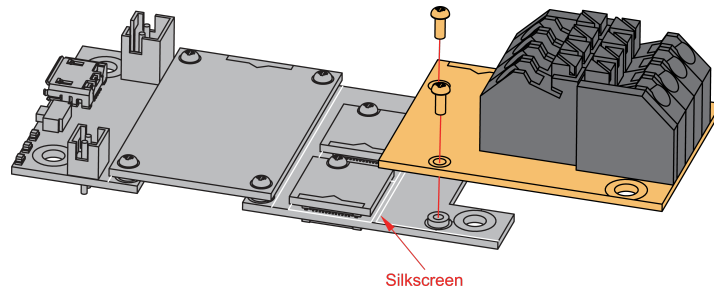

Figure 3: RAK5801 mounting mechanism on a WisBlock Base module
2. Secure the RAK5801 module with **3 x M1.2 x3 pan head screws** as shown in Figure 3 below.